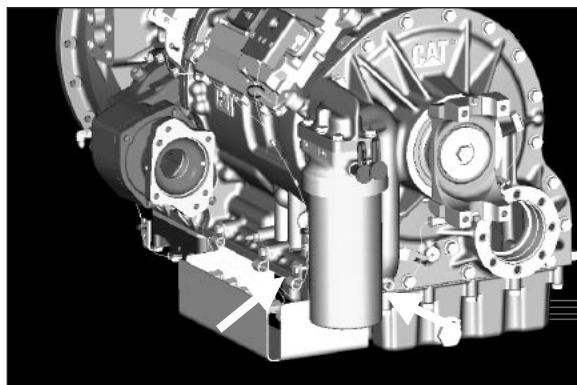

Fig. 7
**NOTE:** There are two (2) high pressure ports available. Use the port located on the driver's side of the transmission unless there is an interference issue with a pump or driven object (**Fig. 7**).